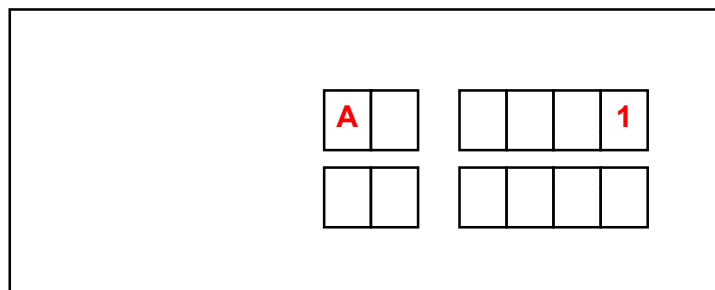

Figure 3.
- Press [GN] – panel displays as per Figure 3.